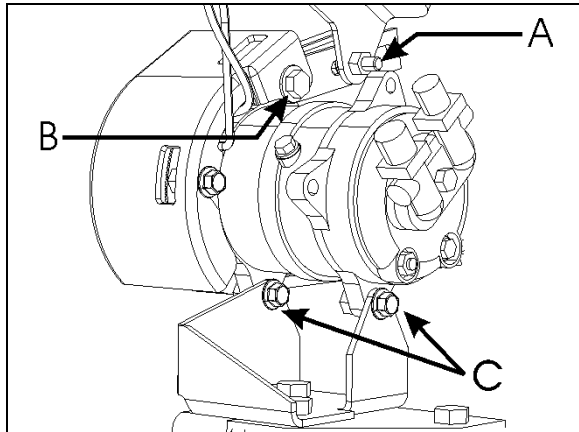

FIGURE 35: COMPRESSOR REMOVAL OR INSTALLATION 22349
- \* Slacken bolts A (Refer to figure 35).
- \* Remove bolts B & C (Refer to figure 35).